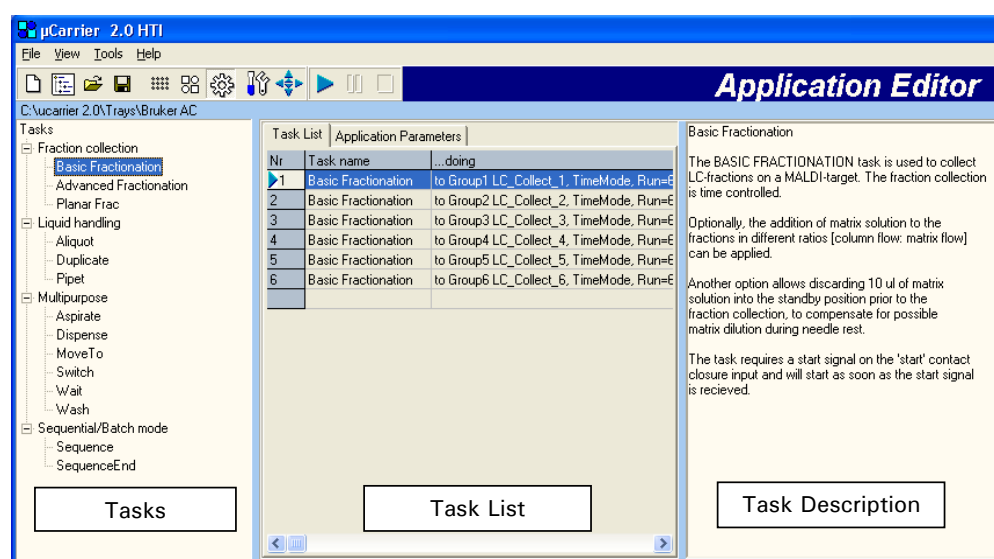

FIGURE 2-18 Available Tasks, Task List and Task Description
- h) Once all axes are moved to their proper positions confirm by **Next**, and then wait for the message box telling you the sample carriers have been aligned (FIGURE 2-18). This can take a few seconds. When finished, the table will move to home position
If you changed the number of groups or if you want to perform fewer runs than the total number of this predefined application, you may have to modify the task list (FIGURE 2-18), e.g. to add, delete or modify tasks.
- Present 'Tasks' section (e.g. if the browser pane is currently visible) by selecting the **Show Browser** button ((FIGURE 2-18)).
- To add a new task, double click on the required task from the 'Tasks' section presented in the left side of the window. The new task will be added to the bottom of the task list (FIGURE 2-18).
Note: Selecting a task in the 'Tasks' section with one mouse click (rather than double-click) will display the task description in the right side of the *Application Editor* window (FIGURE 2-18).